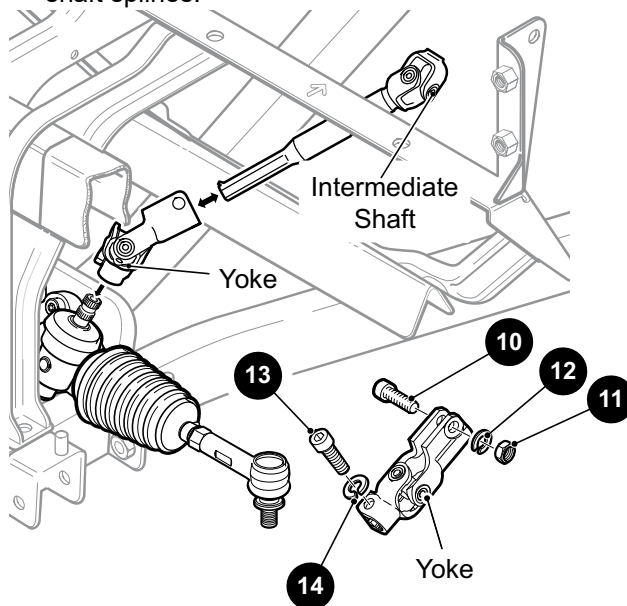

Figure 11 Upper Cross Bolt
4. Loosen the upper cross bolt (10) on the yoke. Slide the yoke upward on the intermediate shaft to disengage from the steering box pinion (Figure 11).
6. To separate the yoke from the intermediate shaft, remove the upper cross bolt (10), lock washer (12) and nut (11). Pull the yoke off of the intermediate shaft splines.